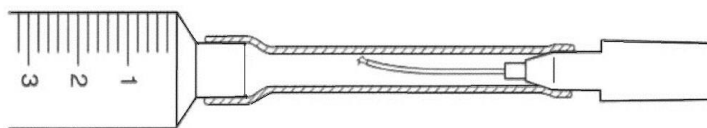

Figure 1 Use specially provided cleaning syringe
- 3) Carefully place the silicone tube over the end of the instrument and attach to the handle, taking care not to damage the delicate tips. See Figure 1 below.